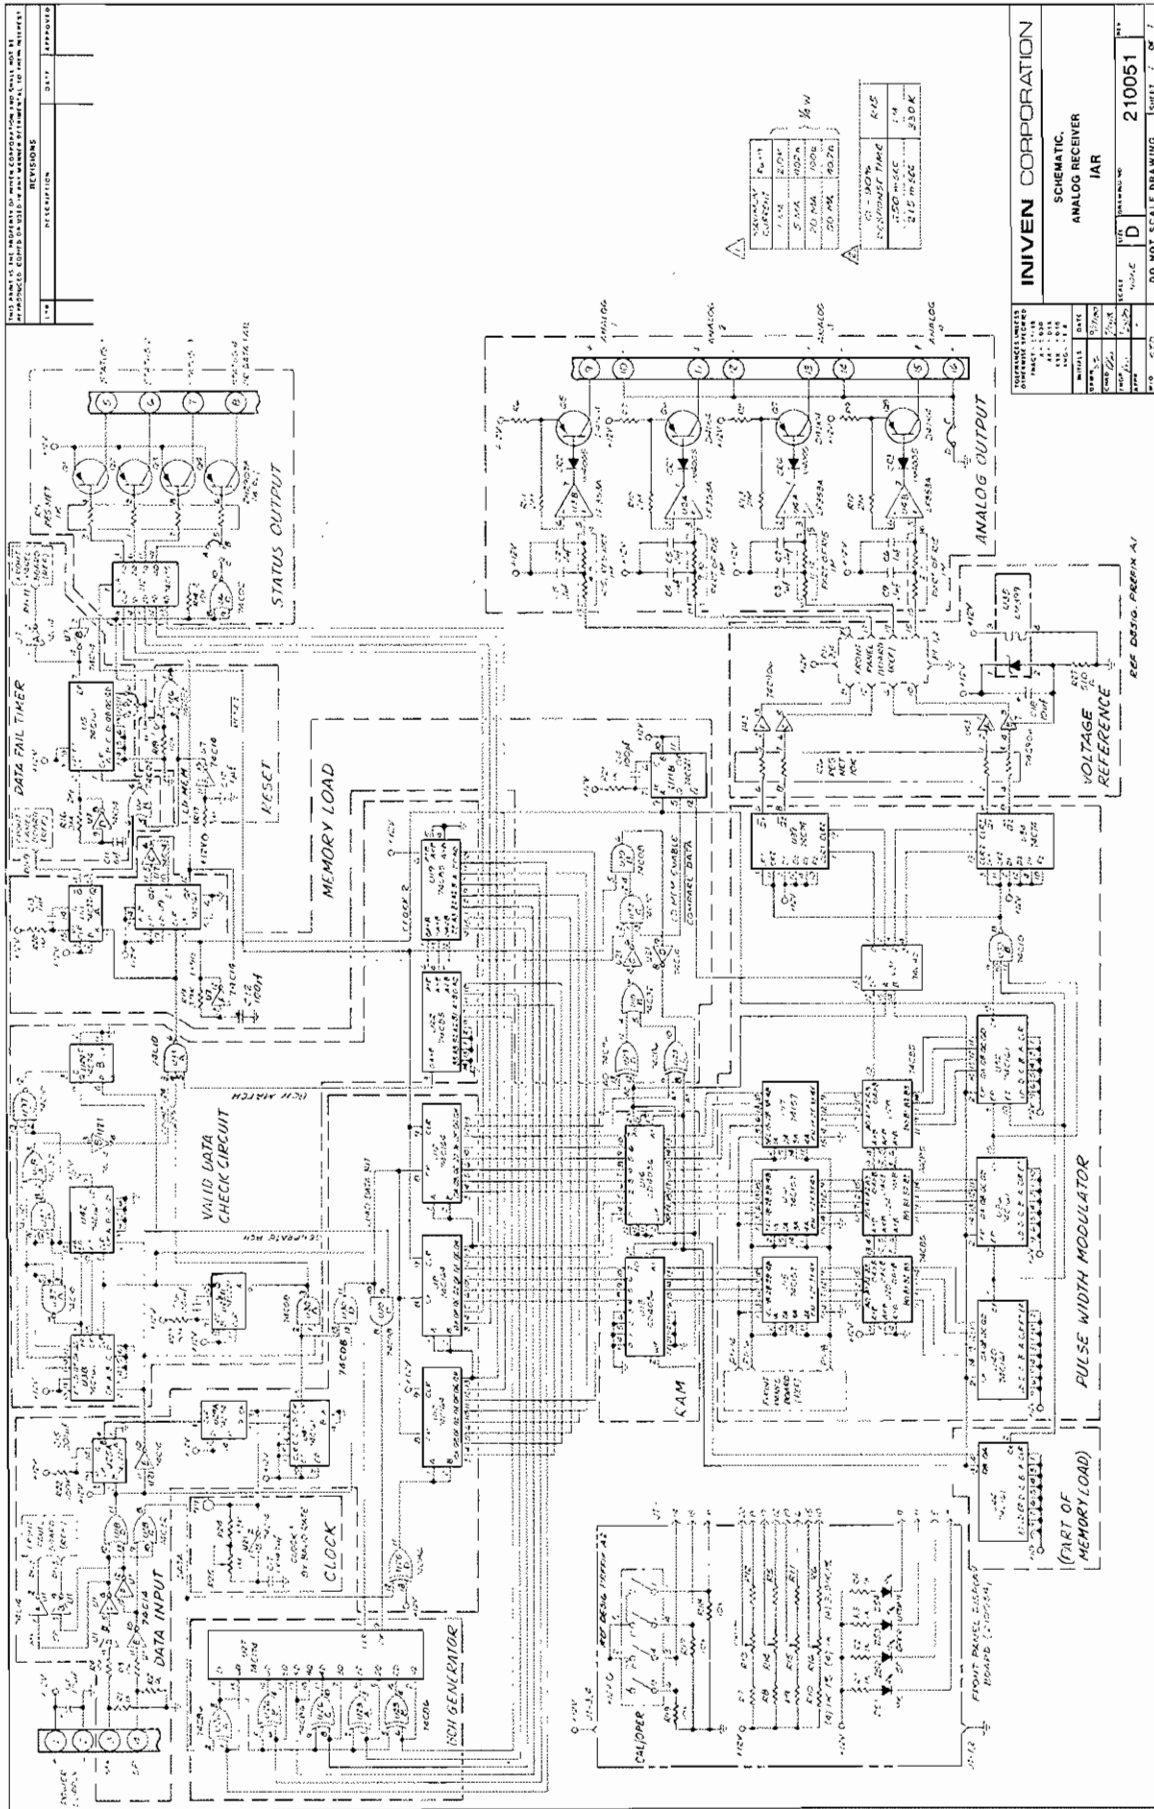

Figure 2. IAR Analog Receiver—Schematic Diagram
4. THEORY OF OPERATION. (See Figures 2 and 3)